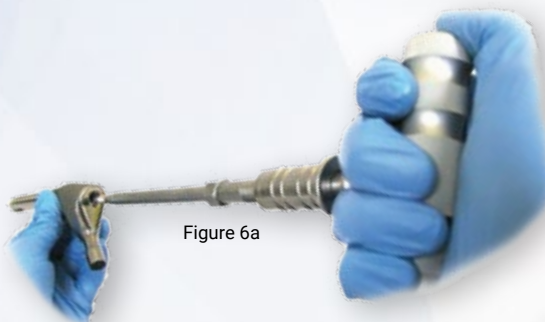

Figure 6a
3. Use the T-handle to screw the Shaft Driver assembly tightly into implant neck (Fig. 6a).